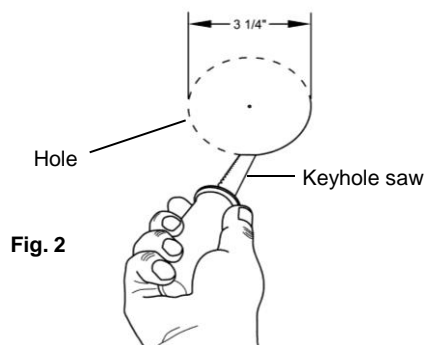

Fig. 2
1. Cut a 3 1/4" (8,3 cm) hole into the ceiling after choosing the appropriate location. A template is provided to assist in making the hole. (Fig. 2)